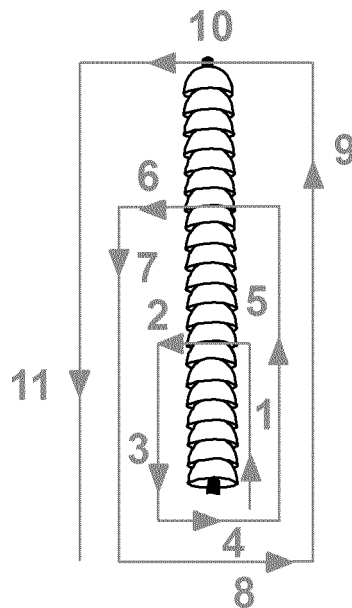

Figure 5-18
- A. Use the box washing pattern on all vertically-mounted, post-type insulators and bushings. Similar to the straight pattern, use this pattern when washing in sections to remove the contaminants from the lower sections before moving up the stack. Figure 5-18 below shows the box pattern for a 230-kV, post-type insulator. The insulator is divided into three sections, regardless of mechanical breaks.